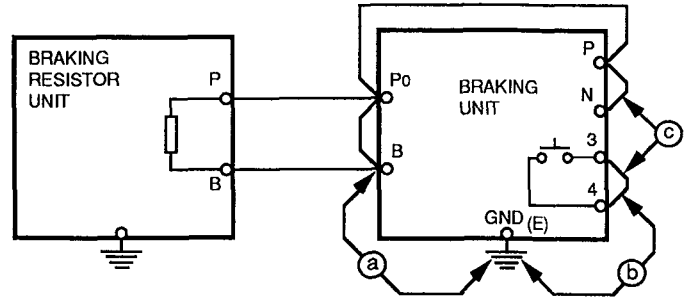

Figure A5-6. Megger Testing Set-up
- b. Connect common leads (jumpers) across Braking Unit terminals N, P, Po, and B, and across 3 & 4, as shown in Figure A5-6.
- c. Measure the insulation resistance at points a, b, and c in Figure A5-6 with the megger.